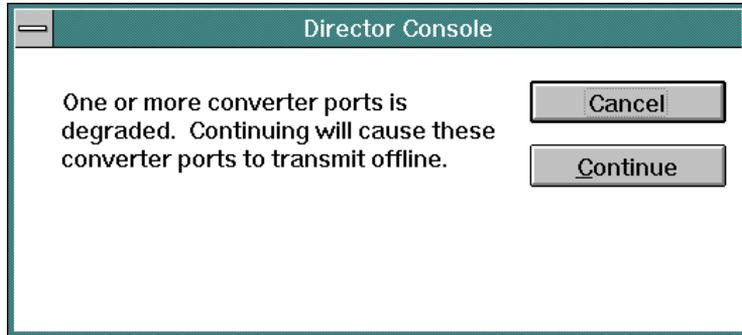

Figure 170. Degraded Converter Port Message Box
14. LIC Version 5.0 (or higher) cannot be installed concurrently to a FICON-capable 9032-005 Director if one or more FCV port cards are operating in degraded mode. An FCV port card is degraded if up to seven (but not all eight) internal ESCON ports are not operating. If an FCV port card is degraded, the message box shown in Figure 170 appears.